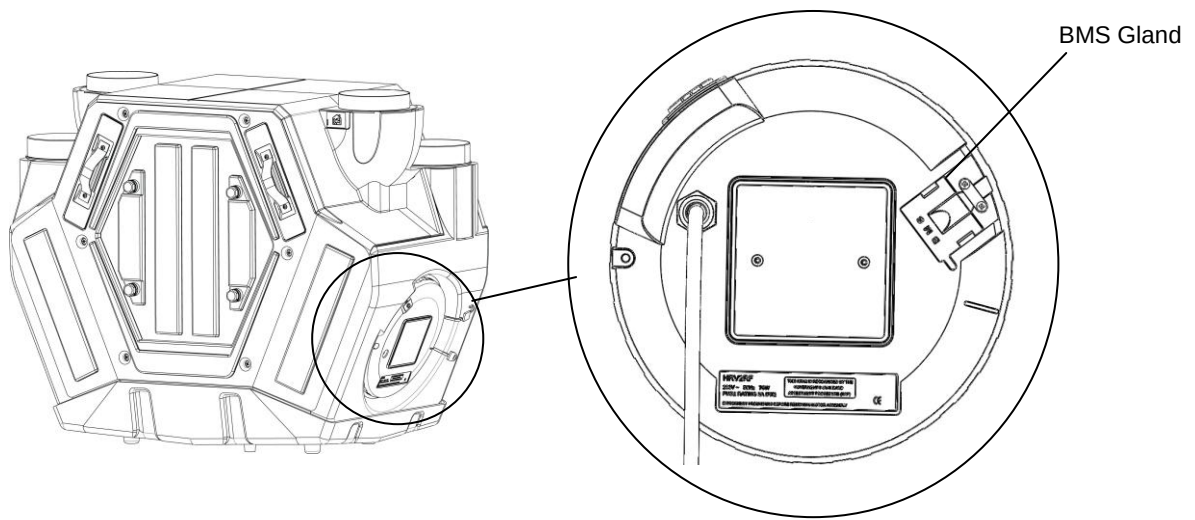

Figure 17 – HRV2HT BMS Location
- 2.8.2 To connect your BMS system to the HRV2HT, first locate the connector underneath the BMS gland on the supply side of the Unit (*See Figure 17*).